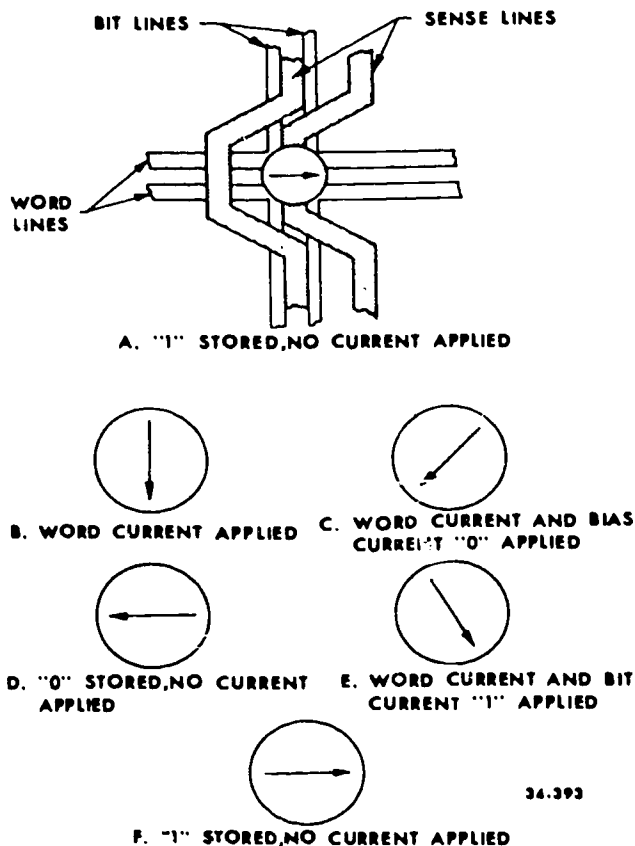

Figure 3-12. Switching a film spot.
Figure 3-12,A, shows a film spot and the line array on one side of the spot. An identical set of these lines is placed on top of the film spot. The connectors for the line array are wired so that the word lines produce two turns. (Bit lines are effective in selecting a par-
The arrow of the film in figure 3-12,A, shows the stable-state magnetic vector with a 1 stored. If word current flows down the word lines, the magnetic vector rotates 90° , as shown in figure 3-12,B. If bias current is applied to the bit lines, the magnetic vector rotates toward the 0 stable state, as shown in figure 3-12,C. After the word current is removed, the vector completes the 180° rotation from the 1 state. Thus, a 0 is stored, as shown in figure 3-12,D.
If a 1 is to be stored in the spot (see figs. 3-12,E, and 3-12,F), current applied to the bit lines is reversed. Thus, the magnetic vector is rotated toward the 1 state. If the word current and then the bit current are removed, the stable state of magnetization will represent a 1.
9. Refer to text figure 3-12. What conditions in the word and bit lines initiate the writing of a 1 in a film spot?